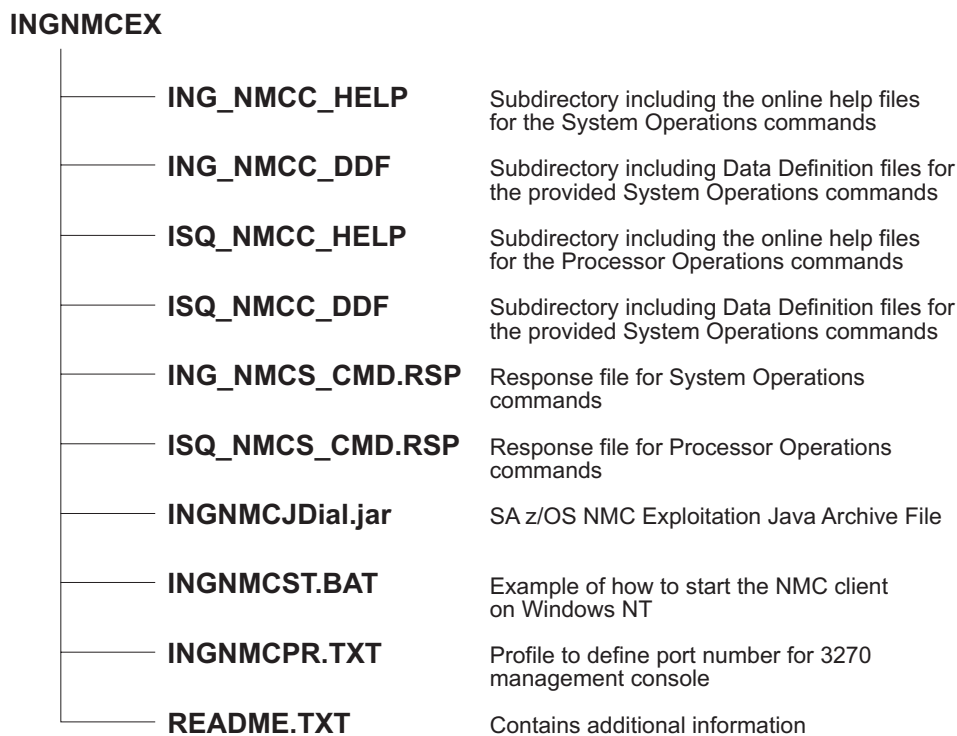

Figure 16. Directory Structure of Unpacked Files
2. Unpack the file into a temporary directory of the NMC Server, using an appropriate tool for the NMC Server operating system. You will obtain the directory structure for the unpacked files as shown in Figure 16.